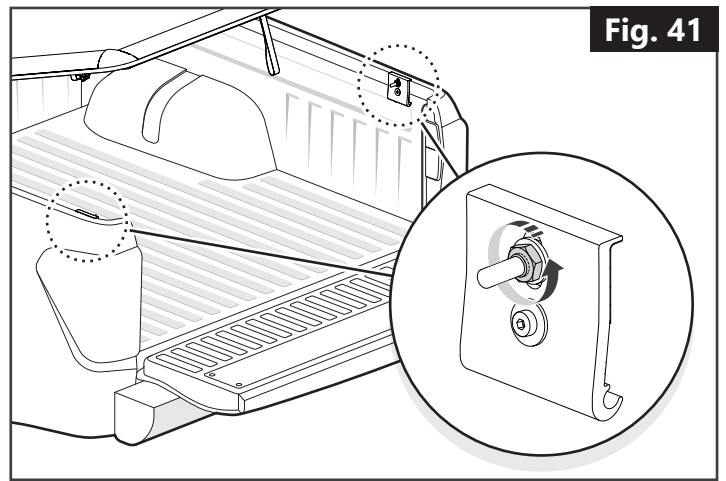

Fig. 41
- 1) To re-position the locking pins, first open the cover, and loosen the locking pins. (**Fig. 41**)